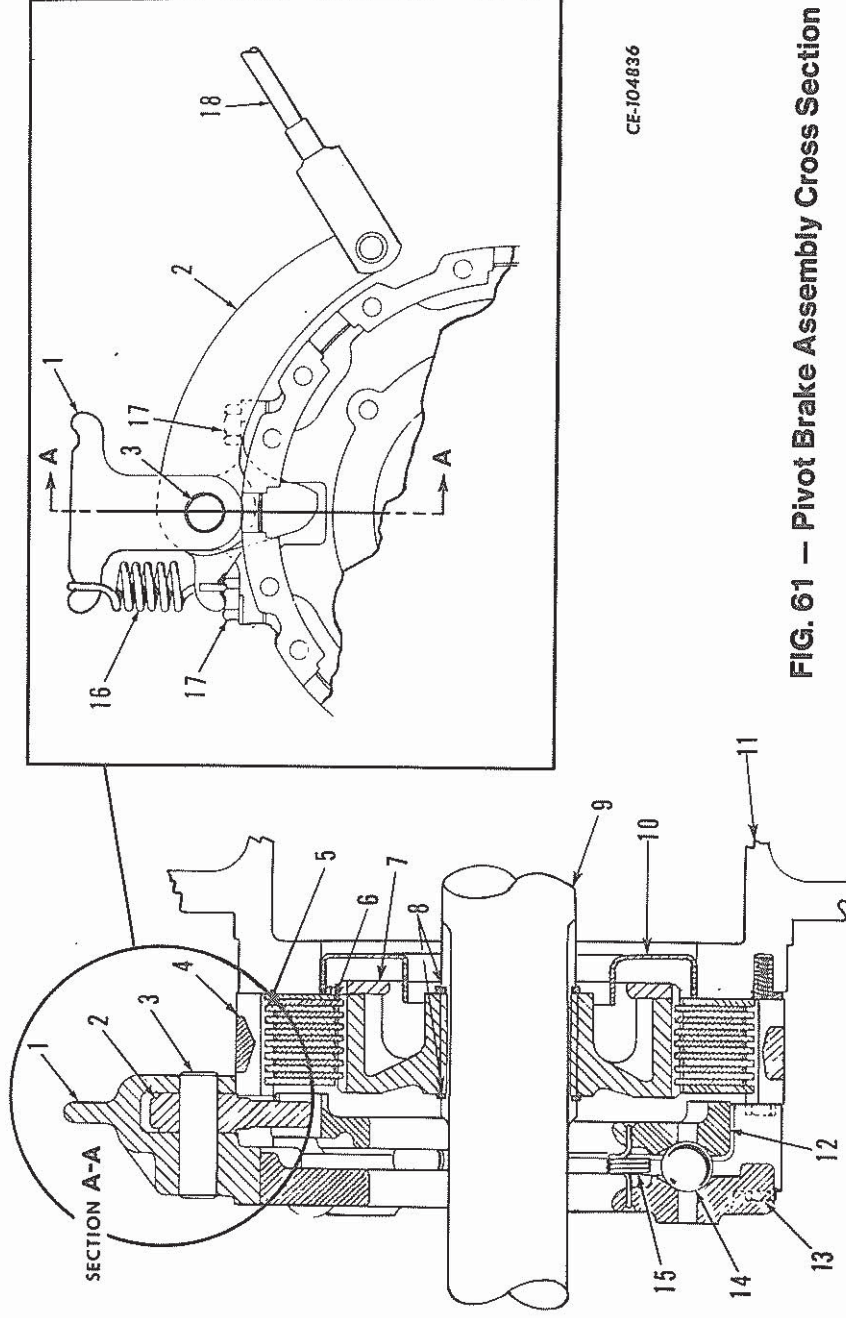
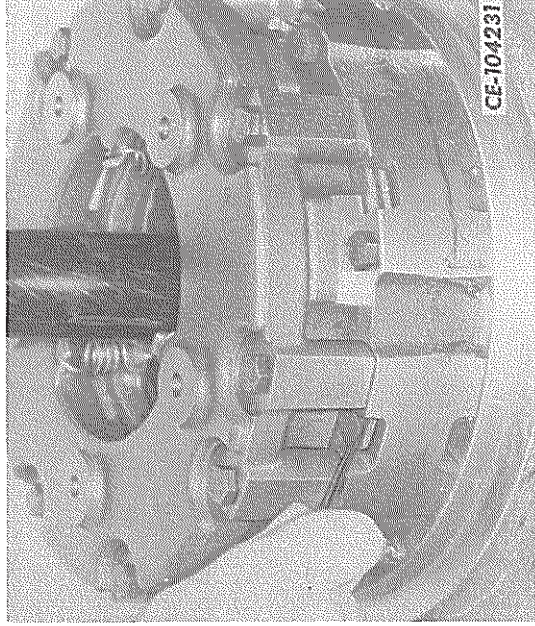

FIG. 61 — Pivot Brake Assembly Cross Section
FIG. 65 — Measuring Plate End Clearance
5. Remove the brake inspection cover (located next to the steering booster) from the rear main frame cover. Discard the gasket. Work through this opening to free the actuating lever assembly from the pivot brake by removing the bolts (17, Fig. 61) securing the support (1) to the brake. Swing the support, with spring (16) and lever (2) attached, out of the frame and secure this assembly to the cover as shown in Fig. 52).
6. Check the actuating lever return spring (16, Fig. 61) for damage and tension (refer to Par. 2, "SPECIFICATIONS").
3. Alternately install eight separator plates (5, Fig. 61) and seven friction plates (6) between the brake hub and plate retainer. These plates are installed correctly when the first and last plates to be installed are the externally tapered separator plates (5).
6. Apply pressure to the plates (5, Fig. 61) and (6) to be sure they are bottomed on the carrier (11) and, with a feeler gauge, measure the gap between the plates and the actuator (12). (Refer to Fig. 65.) If the brake
5. Working through the brake inspection cover opening in the rear main frame cover, position the actuating lever assembly (Fig. 52) on the pivot brake assembly so the finger of the lever (2, Fig. 61) engages the slot in the brake actuator (12). Secure the support (1) with the bolts (17) using 231-257 N.m (170-190 lbf ft) torque.